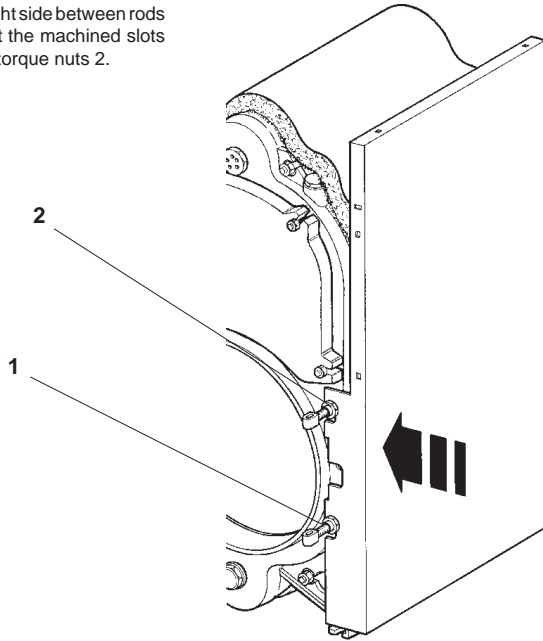

Fig. 28
5.05 (Fig. 28) Insert the complete right side between rods 1 and the boiler unit, checking that the machined slots fit into their correct position. Now torque nuts 2.